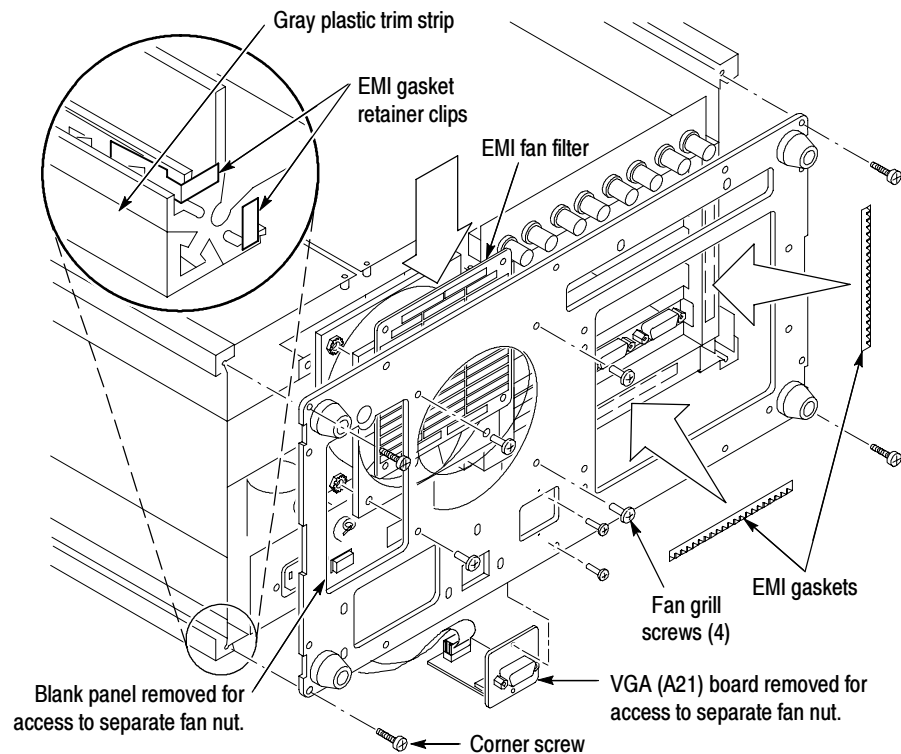

Figure 12: EMI gaskets and EMI fan filter installation (VM700A with VMTB/VMTX)
3. Loosen the four corner screws and pull the rear panel onto the screws, leaning the rear panel away just enough to slide the two EMI gaskets (shown in Figure 12) in place. Do not place excessive strain on the fan cable.
NOTE. Note the position of the two EMI gasket retainer clips (inside the rails) at each corner of the chassis (see the detail inset illustration in Figure 12). The retainer clips must be in place when the rear panel is reinstalled.
5. Attach the EMI gaskets behind the rear panel shown in Figure 12.
NOTE. *Note the position of the two EMI gasket retainer clips at each corner of the chassis (see the detail inset illustration in Figure 12 on page 30). The clips must be in place when the new rear panel is installed. Replacement retainer clips are provided in the spare parts bag in case the originals are damaged or lost.*
NOTE. *The trim strips on the chassis edges (see Figure 12) may slide back as you position the video measurement set on the work surface. This is especially true of the trim strips in contact with the work surface. Make sure each of the trim strips is fully forward as you tighten the corner screws of the rear panel.*